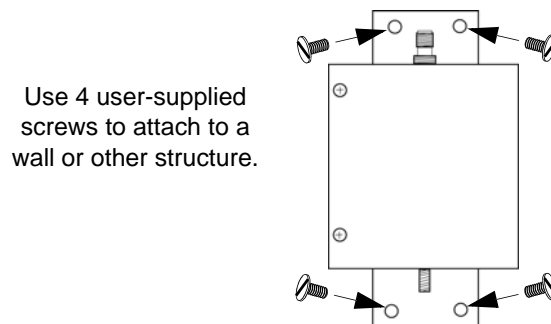

Figure 3-7. Attaching the IF Converter
4.	Use user-supplied screws to mount the IF downconverter to a suitable wall or other structure (Figure 3-7). Be sure the distance along the cable route between the IF downconverter and the antenna is no more than 3 m.
1.	Attach the IF downconverter (Figure 3-7) inside the building to a suitable wall or other structure. Be sure the distance along the cable route between the IF converter and the antenna is no more than 1.8 m or 5.8 m depending on wall antenna cable length used. Include allowances for the drip loop and local company procedures for cable routing.